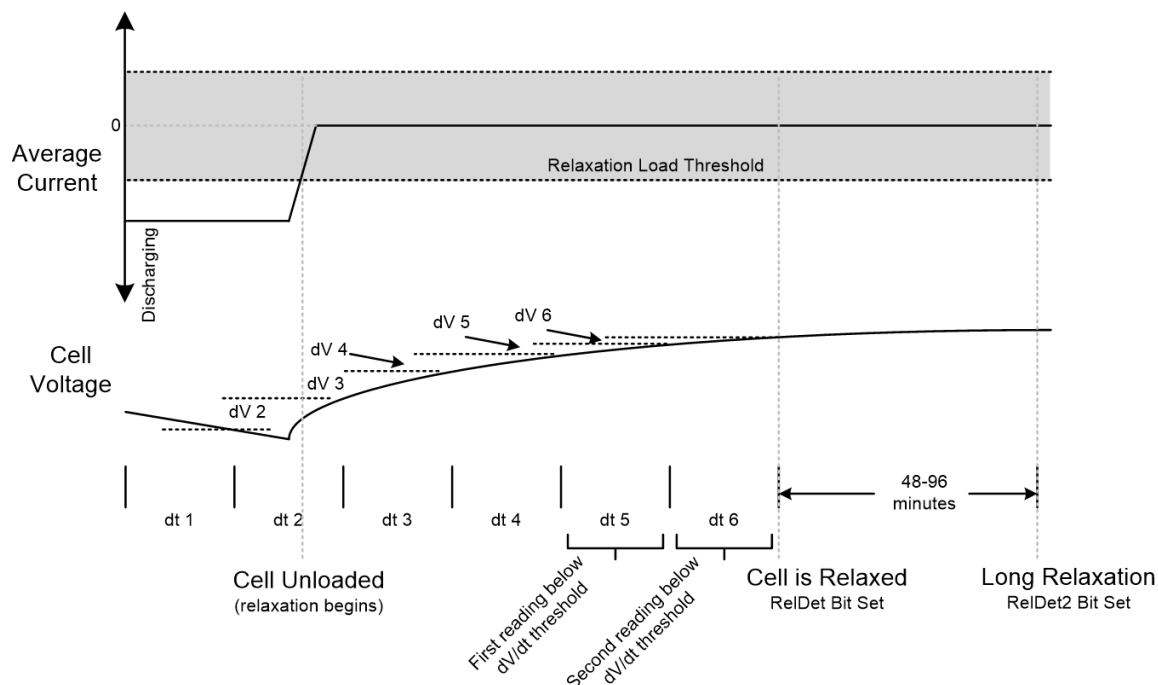

Figure 12. Cell relaxation detection.
The RelaxCfg register defines how the IC detects whether the cell is in a relaxed state with a low dV/dt. Figure 12 describes relaxation detection. If AvgCurrent remains below the LOAD threshold while AvgVCell changes less than the dV threshold over two consecutive periods of dt, the cell is considered relaxed. Table 16 shows the RelaxCfg register format.
**ReIDt:** Relaxed Cell Detection. This bit is set to 1 when the ModelGauge m5 algorithm detects that the cell is in a fully relaxed state. This bit is cleared to 0 when a current greater than the Load threshold is detected. See Figure 12.
**RelDt2:** Long Relaxation. This bit is set to 1 when the ModelGauge m5 algorithm detects that the cell has been relaxed for a period of 48 to 96 minutes or longer. This bit is cleared to 0 when the cell is no longer in a relaxed state. See Figure 12.